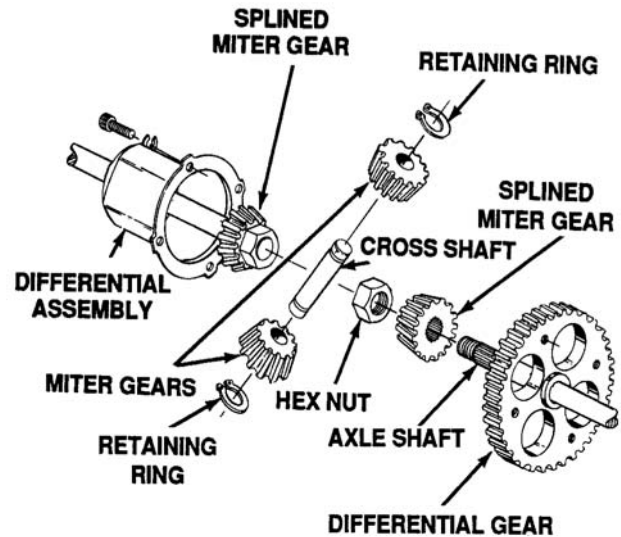

Figure 5-110. Differential Disassembly
14. Disassemble differential by removing four socket head bolts and lock washers. See Figure 5-110. Inspect differential gear (72 teeth) for any damage. Replace if necessary.